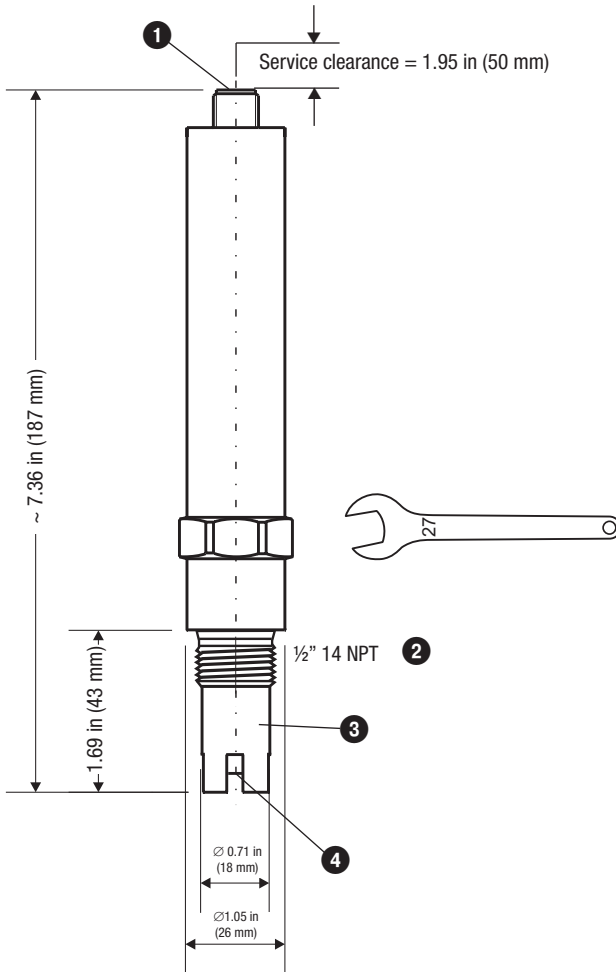

Fig. 3 LRG 16-9
- Please leave a service clearance of 1.95 in (50 mm) for installing and removing the conductivity electrode, see **Fig. 3**.